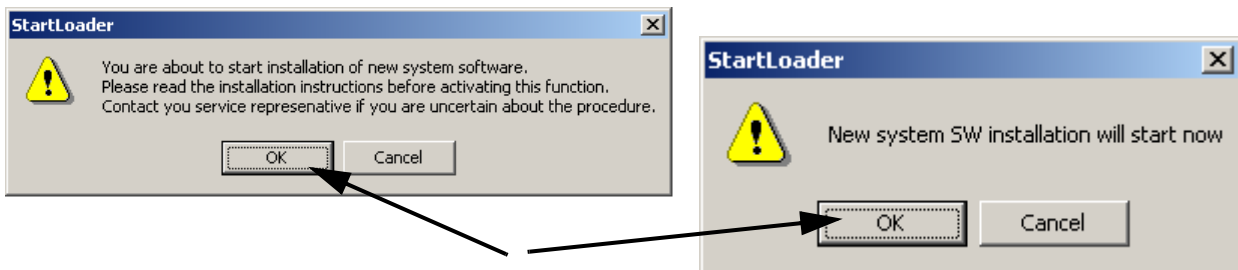

Figure 3-24 Start Loader Dialog Boxes
- 7.) There will be two dialog boxes popping up warning you that you are about to install new software as shown in Figure 3-24 on page 3-30 . In both cases click OK.